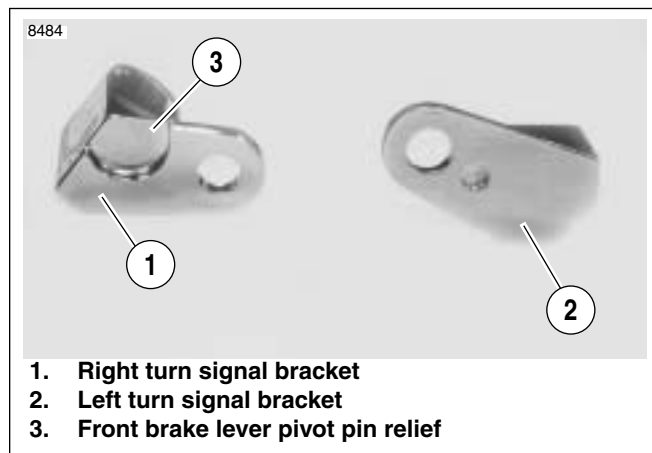

Figure 1. New Turn Signal Brackets
See Figure 1. The replacement left and right turn signal brackets may be distinguished from each other by the presence of a half-moon relief (3) cut into the face of the right turn signal bracket (1) for clearance around the front brake lever pivot pin.